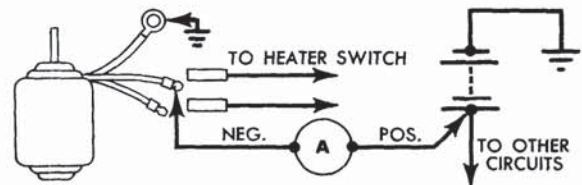

Fig. 18—Heater Motor Current Draw Test
(1) **CURRENT DRAW TEST.** Connect a 0-50 ammeter as shown in fig. 18. The blower motor will operate independently of the control switch, and the current drawn by the motor will be indicated on the ammeter. Normal current draw should be 5-5.5 amperes for the high speed position (orange wire). The slow speed current draw (red wire) is 3-3.5 amperes.